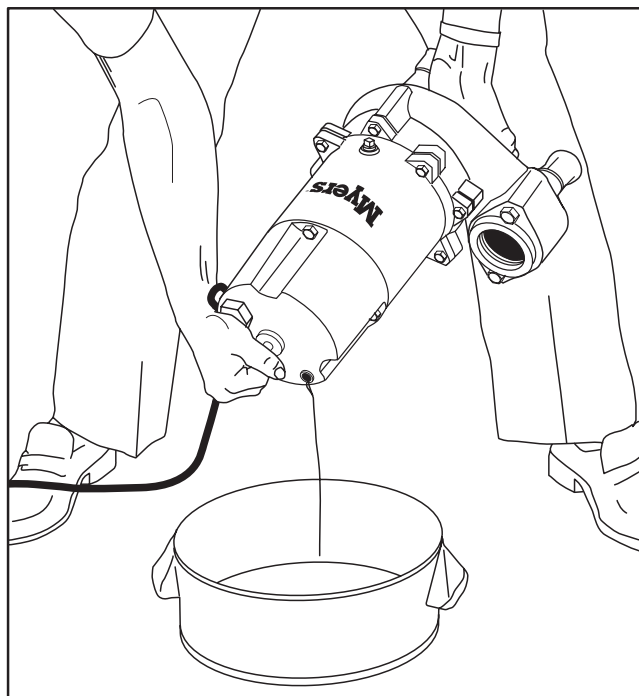

Fig. 8
1. Remove oil fill plug in top of motor and pour out oil. Fig. 8